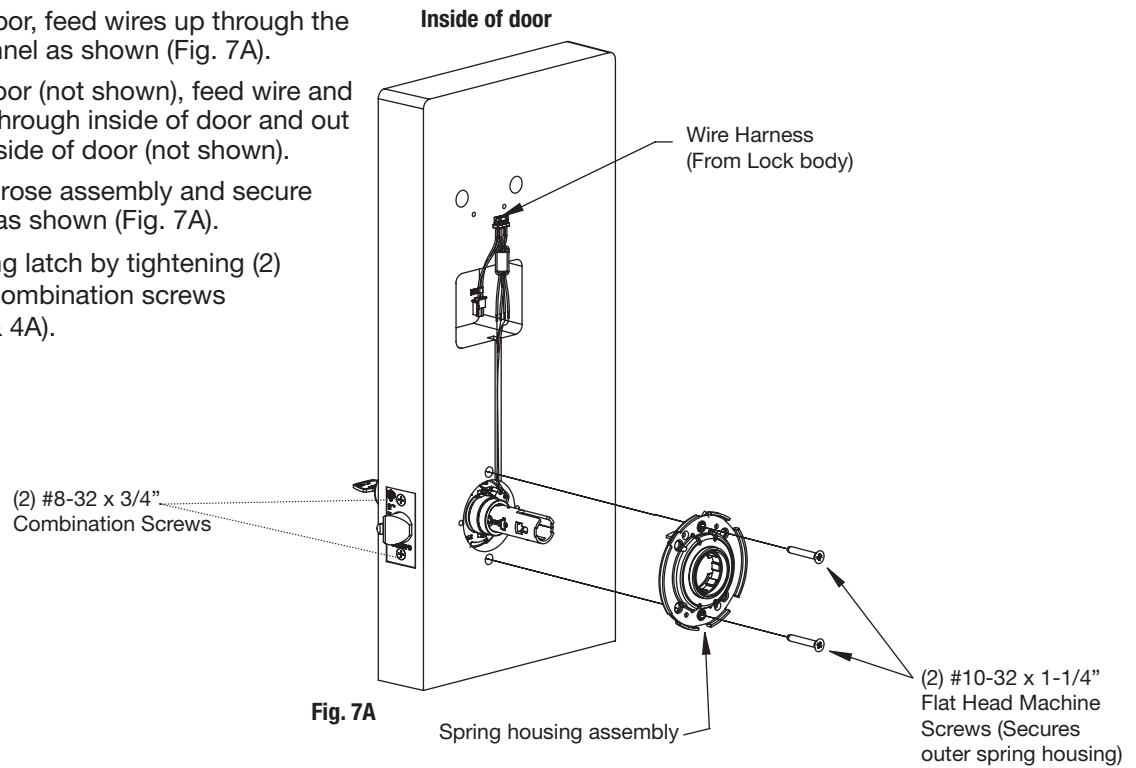

Fig. 7A
- For wood door, feed wires up through the routed channel as shown (Fig. 7A).
2. Attach inside rose assembly and secure with screws, as shown (Fig. 7A).
3. Finish securing latch by tightening (2) #8-32 x 3/4" combination screws (see Fig. 7A & 4A).